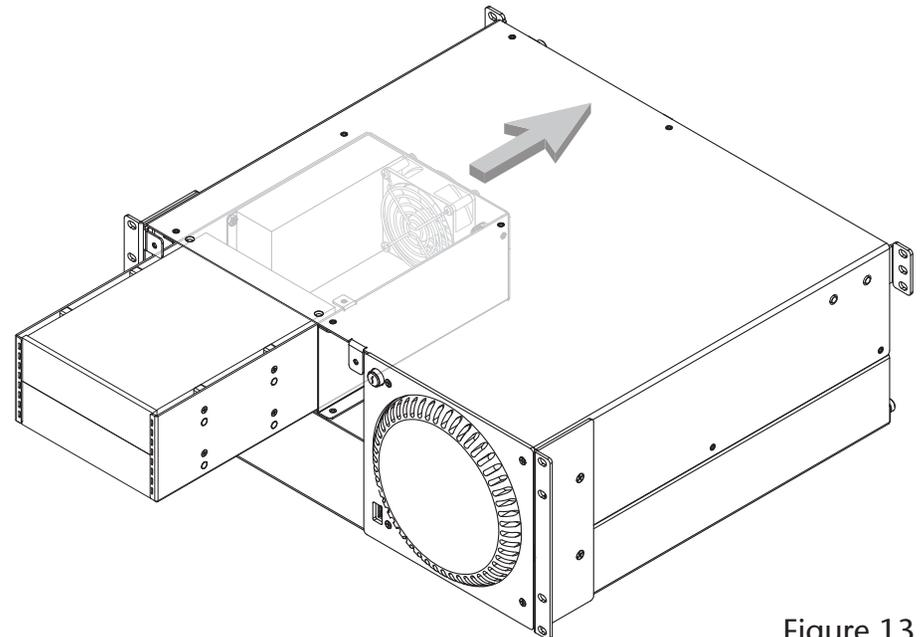

Figure 13
- Carefully slide the mobile rack device mounting kit into the rackmount enclosure until it stops (Figure 13).